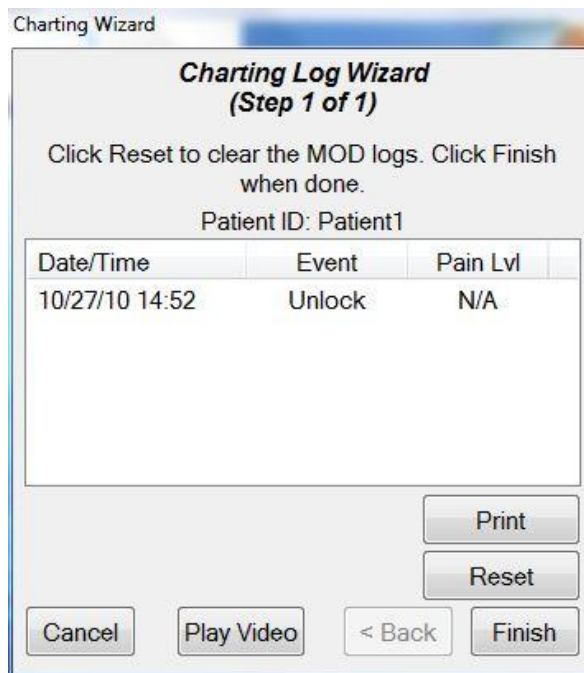

Figure 25: Charting Log Wizard Complete screen
- Select Finish to return to the main menu icons (Figure 25).